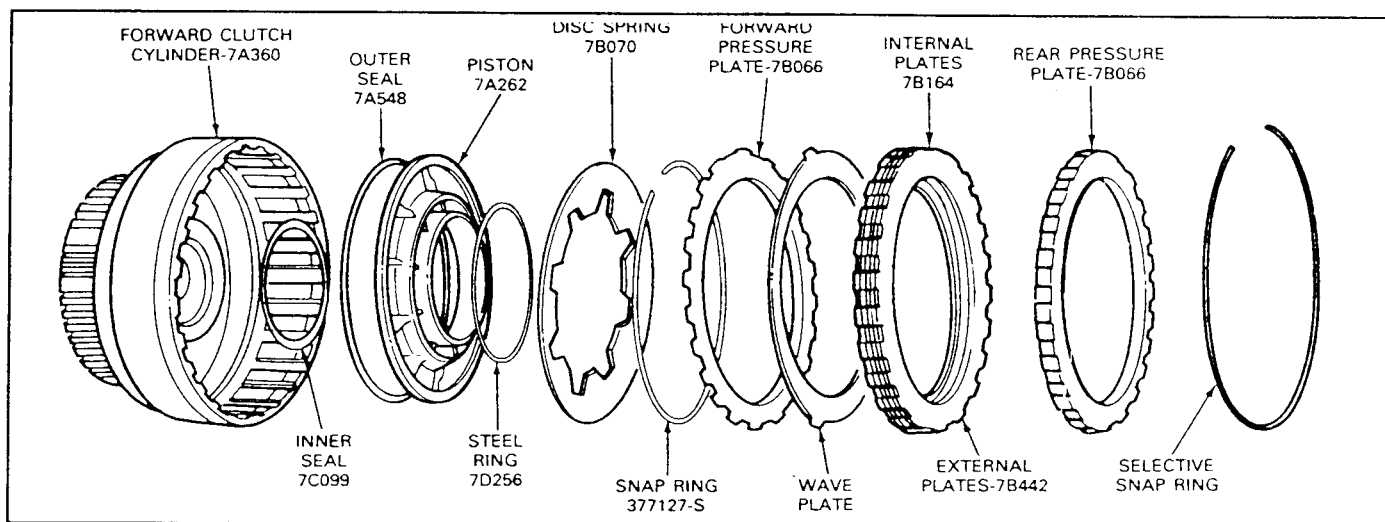

FIG. 48 Forward Clutch Disassembled
2. Remove the rear pressure plate, the drive and driven plates, wave plate, and the forward pressure plate from the clutch hub (Fig. 48).
5. Remove the seal from the piston and the seal from the clutch hub (Fig. 48).
5. Install the forward pressure plate with the flat side up and the beveled side downward. Dip the clutch plates in clean transmission fluid (Specification Motorcraft MERCON® Multi-Purpose Automatic Transmission Fluid XT-2-QDX or DDX (ESP-M2C166-H) or equivalent). Next, install the wave plate, then a steel plate and a composition driven plate. Install the remaining plates in this sequence (Fig. 48).